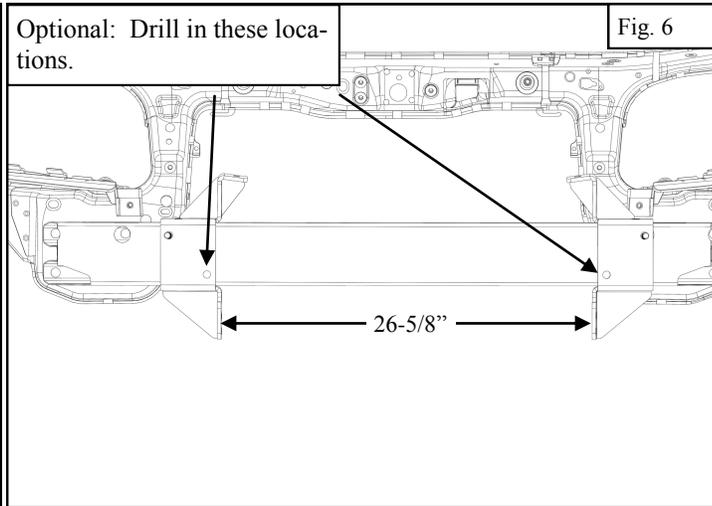

Fig. 6
5. Install the Bumper Channel Mounting Brackets as shown. A small portion of the front radiator shroud will interfere with the brackets. Trim the plastic as necessary, then slide the brackets over until they are centered and approximately 26-3/8" apart (Figure 6). Note: It may take light tapping with a soft face hammer to install them over the bumper channel.
6. Optional: For added strength drill two holes through the front of the vehicle's bumper channel in the locations shown in order to install the remaining M10 bolt plates (Figure 6). Touch up the drilled holes with paint to prevent corrosion.